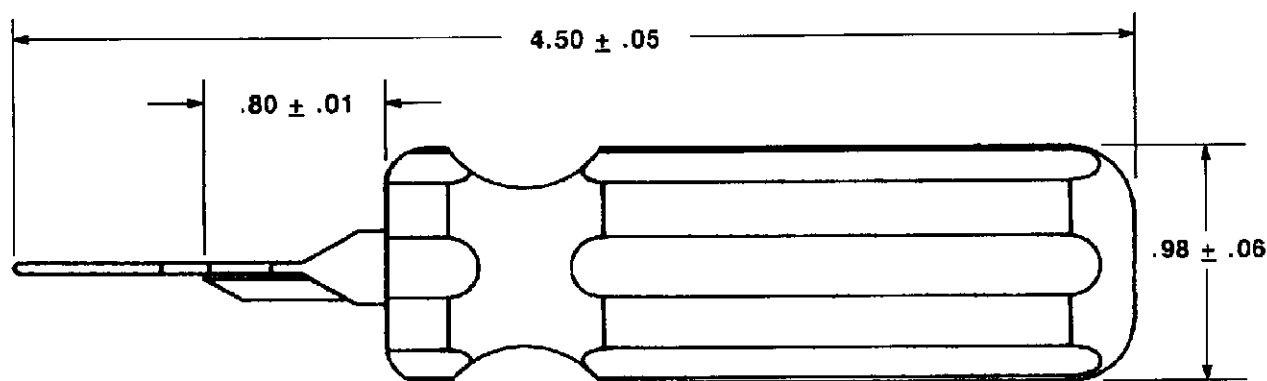

Fig. 5
4. TOOL INSPECTION/REPLACEMENT (Figure 5)
inspected immediately upon its arrival at your facility to ensure that the tool conforms to the dimensions provided in Figure 5, and to ensure that the tool has not been damaged during shipment.